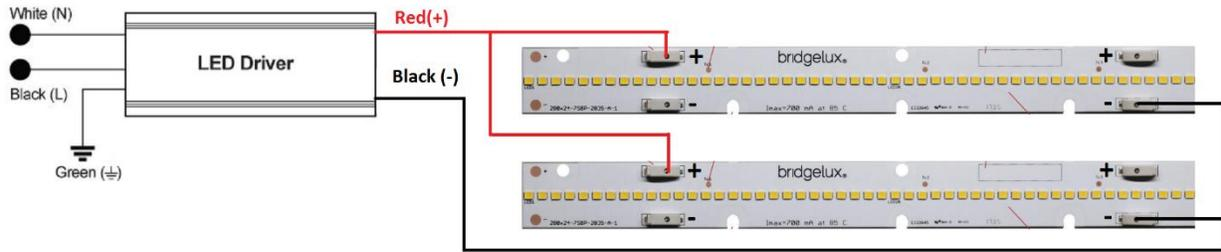

Figure 4: Two EB Series modules in Parallel Configuration
4. If the application requires multiple modules to be connected in a parallel configuration, such as the one shown in Figure 4 below, Bridgelux recommends using modules with the same forward voltage $\pm 0.5V$.